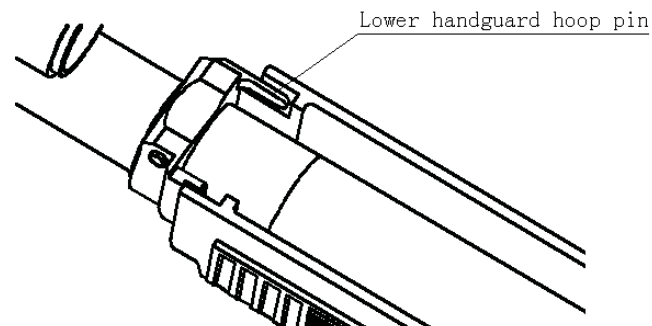

Fig. 21 Lower Handguard Hoop Pin Firmly Holding Lower Handguard
4.2.2. To fit on the lower handguard, turn its hoop pin counterclockwise to fix the pin to the barrel so as to tightly lock the hoop and the handguard(see Fig.21).